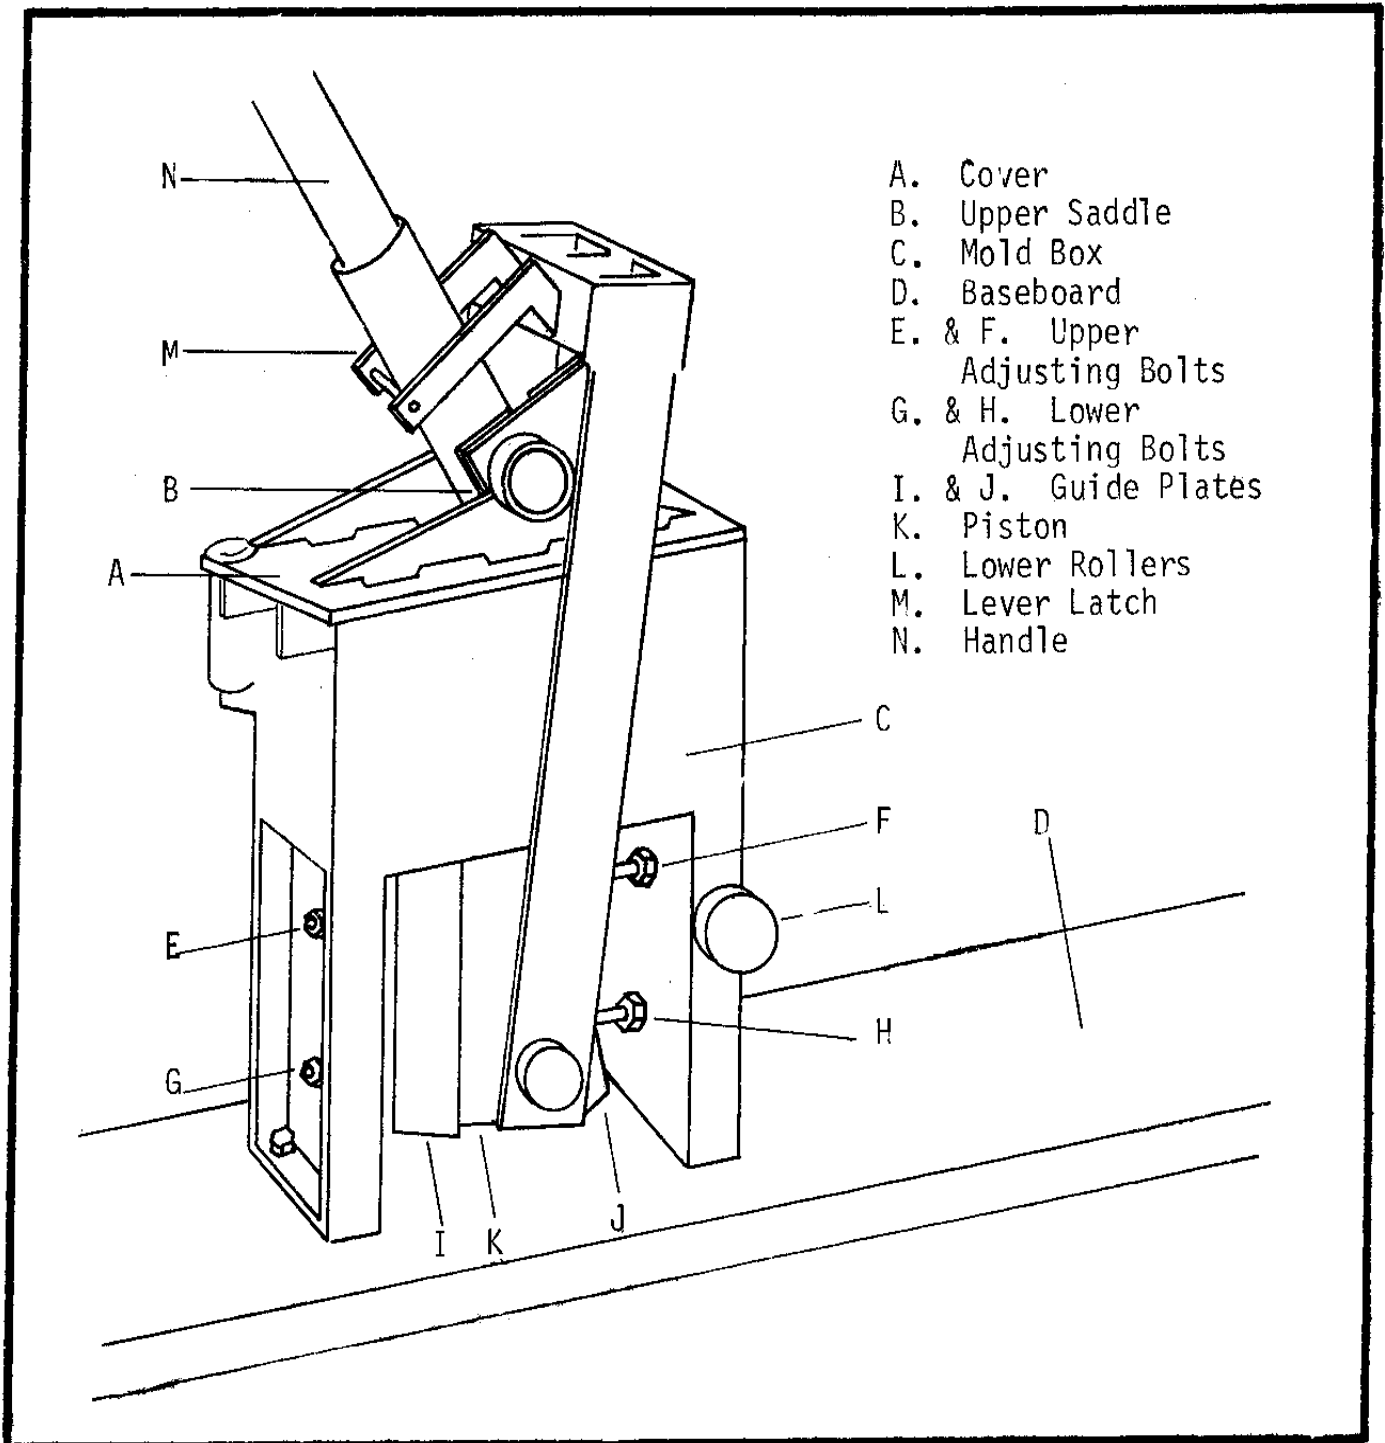

Fig. 1 - The CINVA-Ram Block Press and Its Parts
43. Mounting the Machine The CINVA-Ram Press (see Fig. 1) should
Move the lower adjusting bolts (G and H) sideways toward the high side of the break (see Fig. 1). If more adjustment is needed, move the upper adjusting bolts (E and F) toward the low side of the break. This can sometimes be done simply by hammering the bolt sideways (with a piece of wood, so that the threads will not be damaged) rather than by loosening and tightening the nuts. After the bolts are hammered over, tighten the nuts.
the guide plate opposite the end where the break occurs inward by turning lower adjusting bolt G or H, depending on the guide plate to be moved (See Fig. 1). NOTE: Moving one end of a guide plate in one direction forces the other end of the same plate in the opposite direction. If this loosens the piston much at either the top or the bottom of the guide plate, the other end of the plate must be moved inward. The free play should be corrected because it will cause the piston to crack the blocks by compressing them in one direction in the compression cycle (with the upper saddle as the pivot point) and in another direction in the ejection cycle (with the lower rollers as the pivot point). Also, the guide plates must be tight enough against the piston to keep it from jerking and jumping upward at the end of the ejection cycle.
First move the guide plate on the thicker side outward; then move the other guide plate inward (see Fig. 1). The guide plates should be kept parallel to each other. Move both the tops and bottoms of both guide plates the same distance.
tops of both guide plates toward the thin end. Move the bottoms of both guide plates toward the thick end. (See Fig. 1) The tops should be moved as far in one direction as the bottoms are in the other.